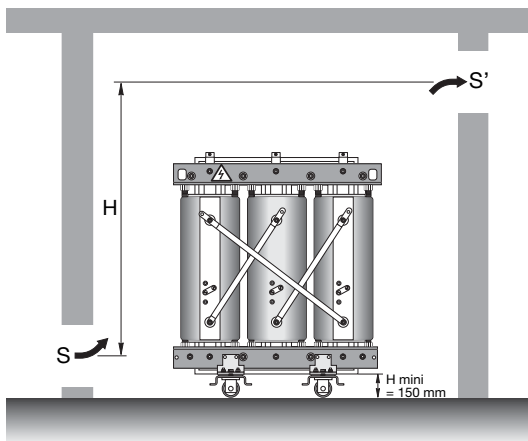

figure 1 - substation natural ventilation
In the case of a sufficiently ventilated substation, appropriate ventilation will consist of a fresh air intake opening of S section at the bottom of the substation and an outgoing air opening S' located above on the opposite wall at height H metres above the intake opening (figures 1 and 2).
- formula for ventilation (figure 1) :